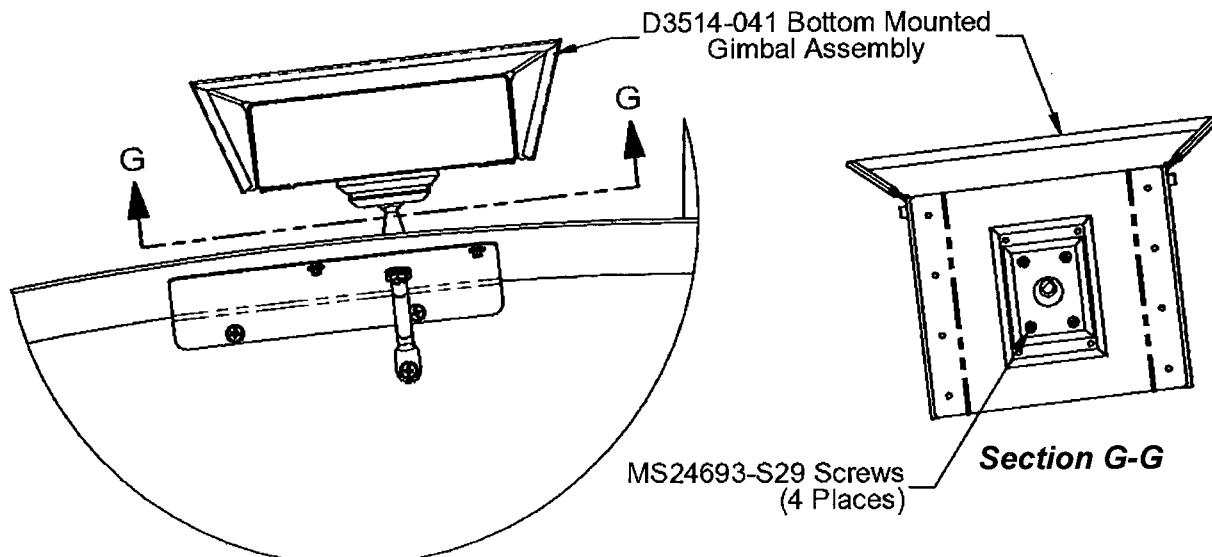

Figure 3.2.6 – Loosen Screws to Adjust Position of Receiver Housing
Note: The Gimbal Mount can be secured in the desired orientation by tightening the qty(4) MS24693-S29 screws found on the D3514-041 Bottom Mounted Gimbal Assembly as shown in *Figure 3.2.6*.